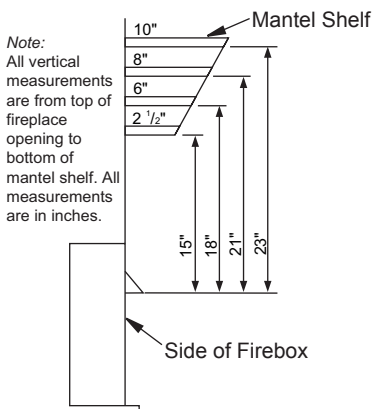

Figure 10 - Minimum Mantel Clearances for Built-In Installation
C. For mantel clearances, see Figure 10 on page 12.